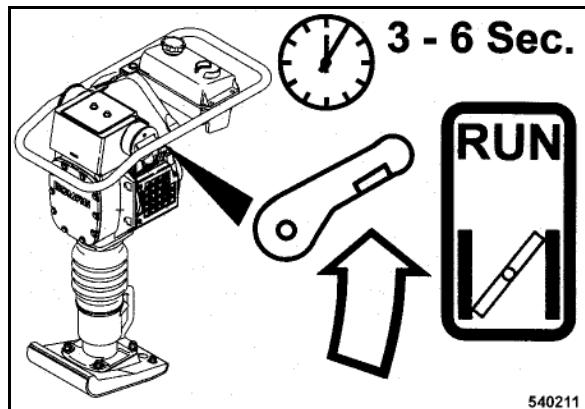

Fig. 16 □
- Open the choke (Fig. 16) 3 to 6 seconds after the engine has started running.